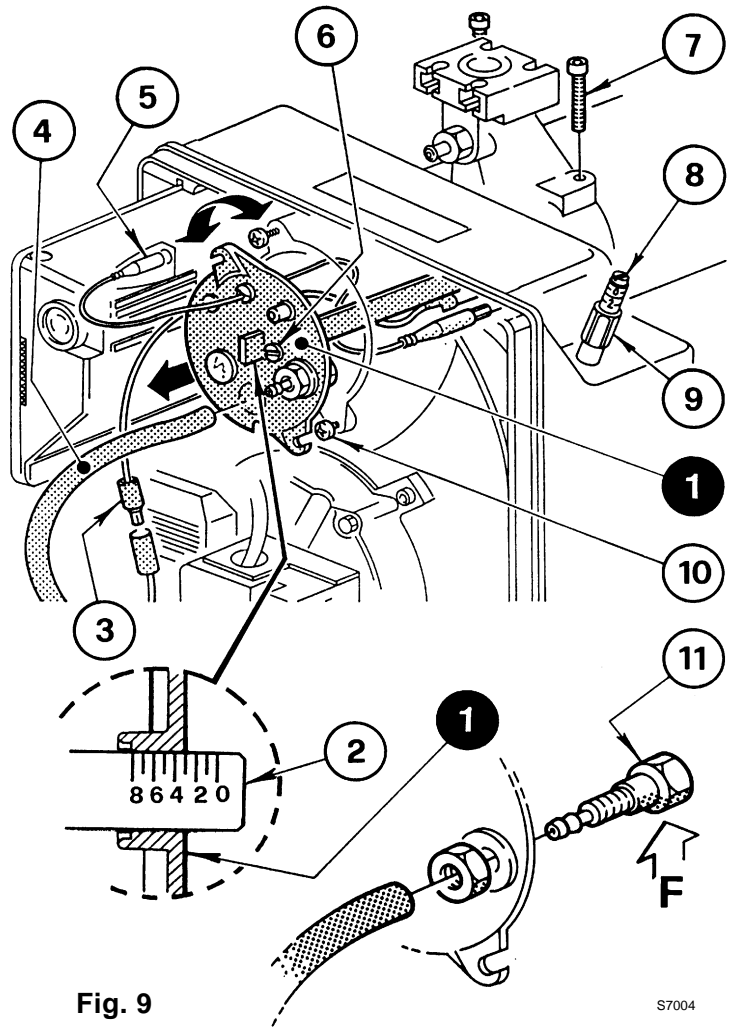

Fig. 9
It depends on the output of the burner and is carried out by rotating clockwise or counter-clockwise the setting screw (6) until the set-point marked on the regulating rod (2) is level with the outside plane of the head assembly (1) (see fig. 9).
In the sketch at page 7, fig. 9 the combustion head is set for an output of 110 kW, with reference to the BS3 burner type 913T1.
AIR DAMPER ADJUSTMENT (Fig. 9, page 7)
<p>The pressure test point (pos. 11, fig. 9, page 7) is badly positioned.</p>	<p>Place it in the right position according to the instructions of this manual on page 7, chapter 4.1.</p>